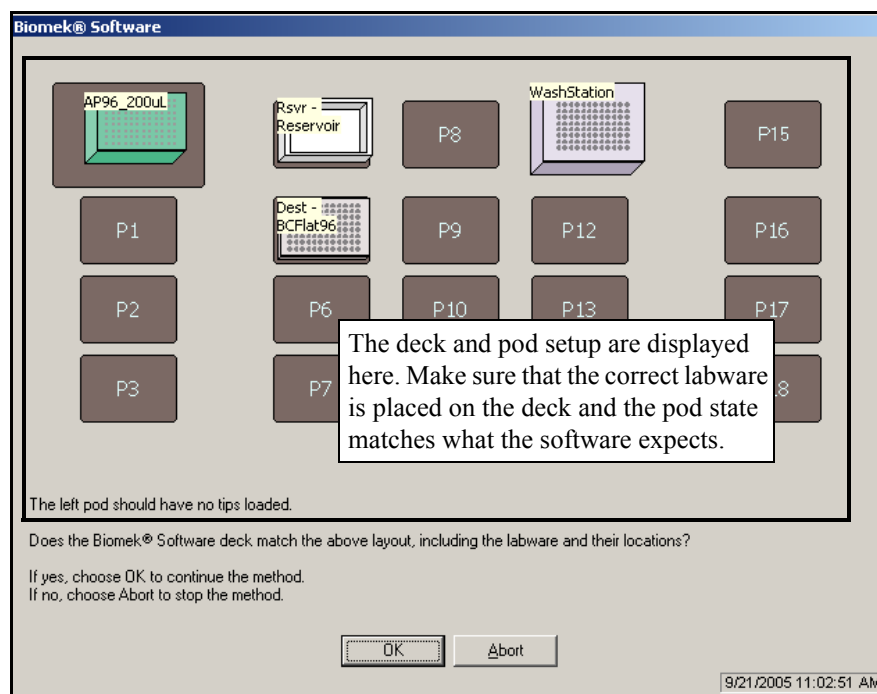

Figure 1-13. Deck confirmation prompt
When you select **Run**, the method will be validated internally to check for errors. After this validation is complete, a deck confirmation prompt will appear over the main editor (Figure 1-13). This prompt displays the deck setup as interpreted by the software.
1. Click on the **green arrow** button on the toolbar or from the **Execution** menu, choose **Run**. A deck confirmation appears (Figure 1-13).